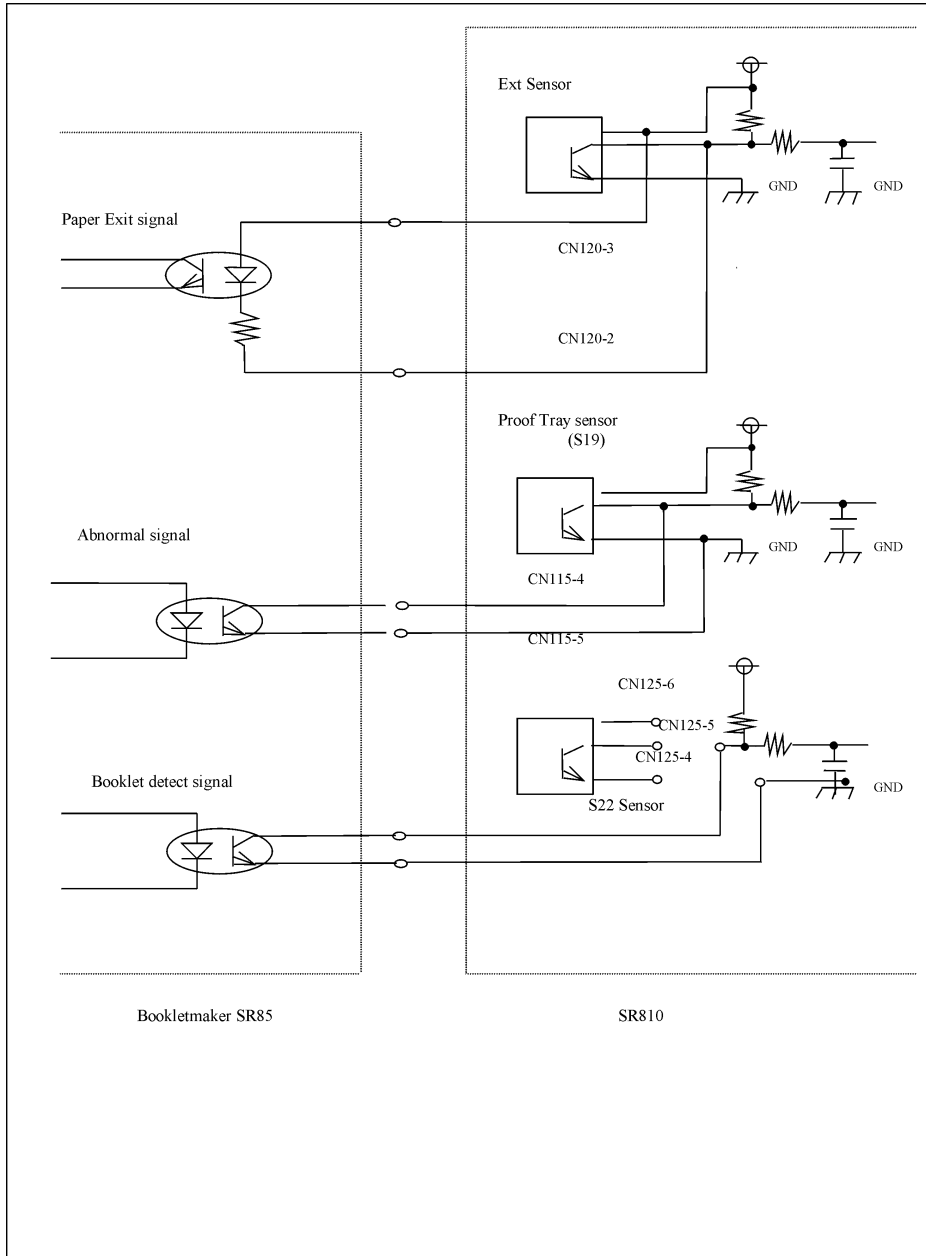

Figure 11
2. Remove the printer finisher connectors CN115, CN120 and CN125 from the Main board PCB1, figure 11.